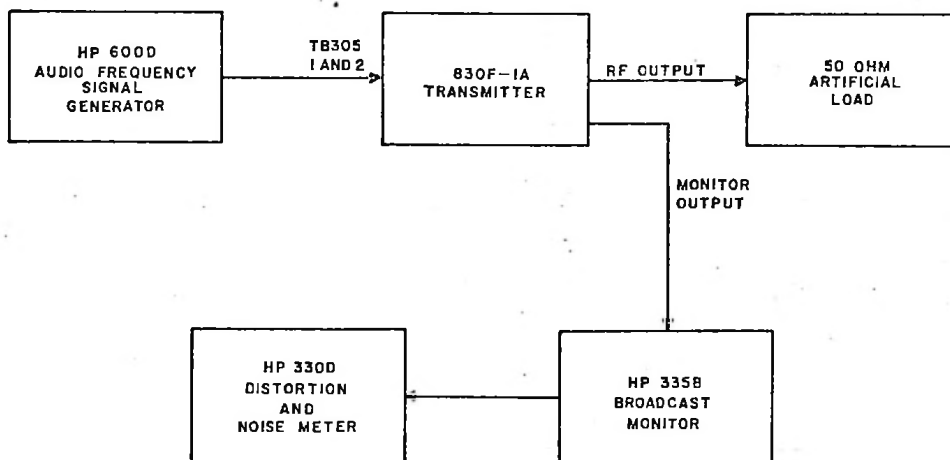

Figure 5-1. Distortion Test Setup
a. Refer to figure 5-1. Connect an audio frequency signal generator, such as a Hewlett-Packard Model 600D to the exciter audio input, terminals 1 and 2 of TB305. (Disconnect the station console audio input leads when making this connection.) Connect a distortion and noise meter, such as a Hewlett-Packard Model 330D, to the broadcast monitor. Connect a 50-ohm artificial load to the r-f output connector located on top of the transmitter cabinet. Turn on the transmitter.